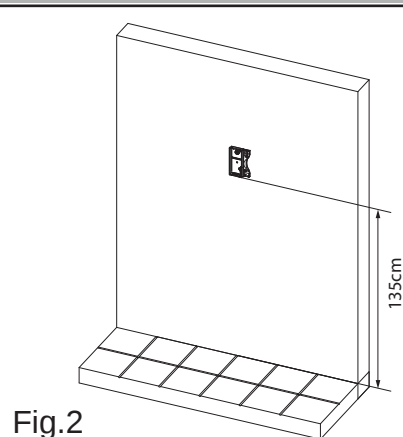
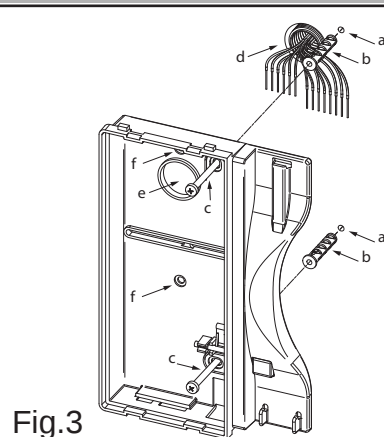

Fig.2
Fig.3
- Put the base of the unit on the wall at about 135cm from the finished floor to match the points for the fixing holes "a" (figure 2) remembering that the wires "d" (figure 3) must be fed through the window "e" (figure 3). If you use the flush mounting box 503, embed it into the wall vertically at about 140cm from the finished floor and the base.
- Following figure 3, make the holes "a", insert the wall plugs "b" and fix the base with the screws "c" leading the wires "d" into the window "e". If you have used the box 503, fix the base to the wall through the holes "f" by using the screws "c".